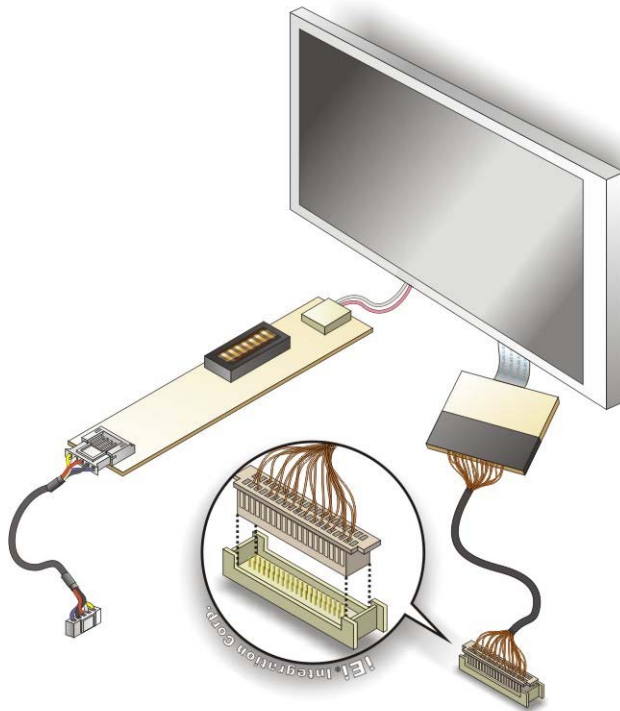

Figure 4-14: LVDS Connector
Step 2: **Insert the cable connector.** Insert the connector from the LVDS PCB driving board to the LVDS connector as shown in **Figure 4-14**. When connecting the connectors, make sure the pins are properly aligned.